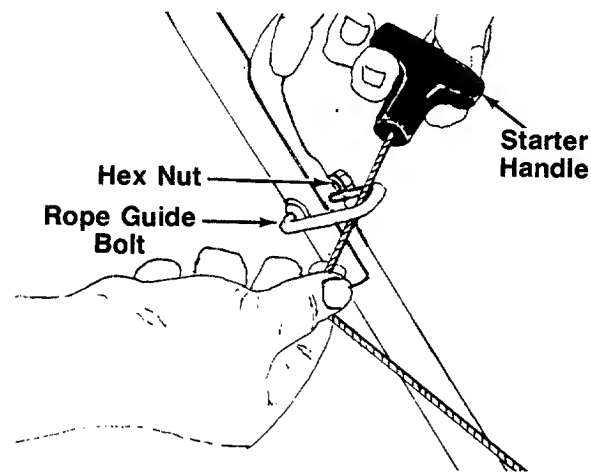

FIGURE 11.
18. Slip the starter rope into the rope guide bolt as shown in figure 11. Tighten the hex nut on the rope guide bolt securely.